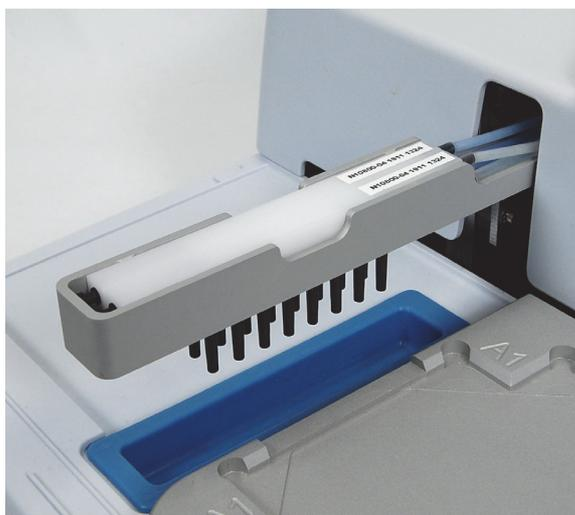

Figure 2–12. 2x8 wash heads evenly inserted
5. Ensure that the wash heads are in the correct order (Figure 2–13).